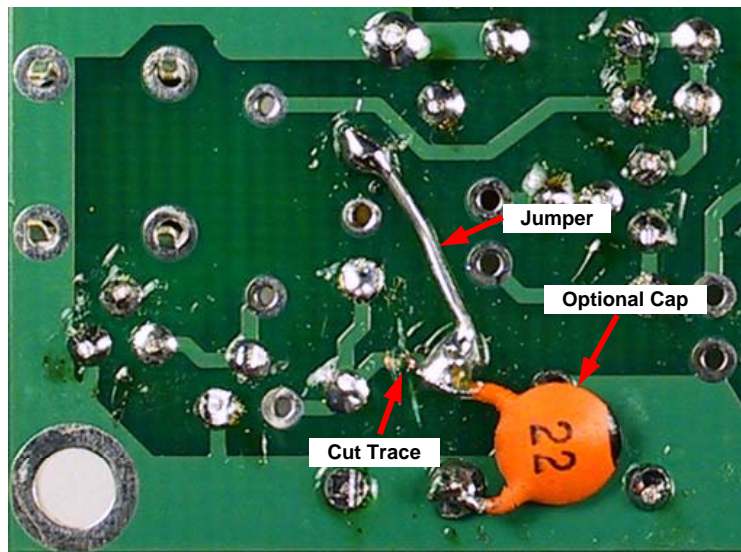

Figure 2. DC Kit Rev A Solder Side Modifications
- ❑ Refer to Figure 2. On the solder side of the board, cut the trace from C34 to C41.
- Install a jumper wire between the top pad of C34 and the top pad of X1. If you are modifying a 40m kit, you will need to install a capacitor across C34, as shown in Figure 2.